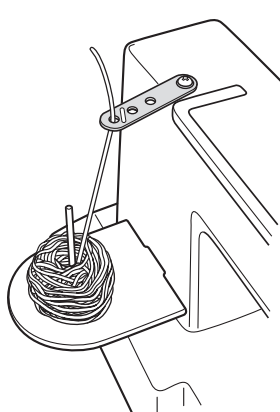

Fig. 1
3. While sitting in front of the machine insert yarn into the third hole of the yarn & ribbon guide as shown in Fig. 1.
**NOTE:** If the tension of yarn is too tight, use only the third hole of yarn & ribbon guide. (Fig. 1)